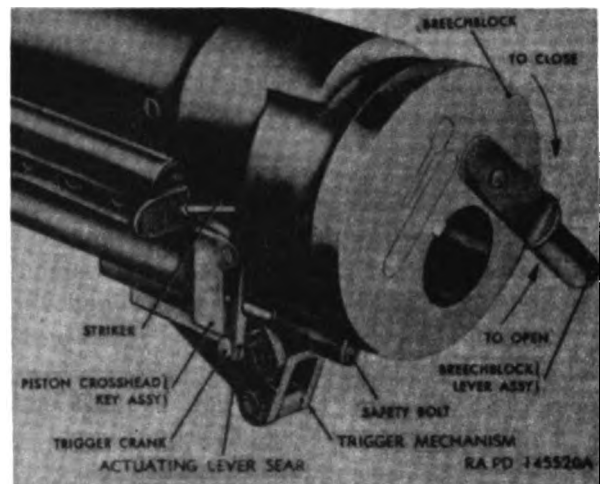
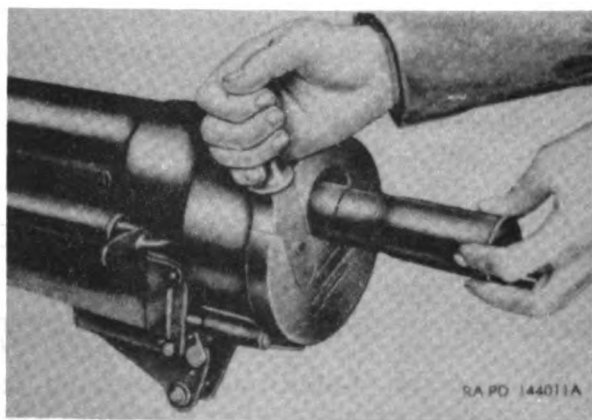

Figure 176. 37-mm gun breech.
Figure 180. Loading the 37-mm gun.
**a. Breechblock and Breechblock Lever.** The breechblock (fig. 176) is an eccentric type which screws into the breech ring, and rotates through an angle of  $156^\circ$  about its axis. The axis of the breech recess is below the axis of the bore. The breechblock is operated by a breechblock lever assembly which, when rotated counterclockwise, positions the eccentric opening in line with the bore. Opening the breech operates the extractor, which extracts the cartridge case. When the lever is rotated clockwise, the breechblock closes the breech, seats the cartridge, places the firing pin in line with the primer in the base of the cartridge case, and at the same time, releases the safety bolt.
- (1) The subcaliber gun should be loaded at approximately 150-mils elevation, since this elevation is used when loading the primary weapon (par. 46). However, it is possible to load the 37-mm gun at any elevation less than 65°. At low elevation, the gun is loaded by standing on the trails or bogie. At high elevations, the gun is loaded by standing on the board placed across the trails under the breechblock of the 155-mm howitzer.
- (2) First cock the gun (par. 153b) if not already automatically recocked, and then open the breech (par. 153).
- (3) Place a round in the breech opening (fig. 180) and push it forward as far as allowed by the extractor. Rotate the breechblock lever to the right until the breech is fully closed (fig. 176). The gun is now ready to fire.